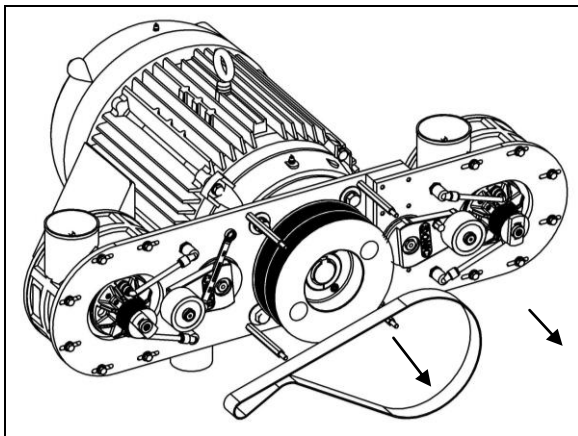

Figure 33 - Remove Belt
2. Using the 9/16 inch box-end wrench, rotate the belt tensioner arm counter clockwise (CCW) and remove the belt. (See Figure 33)